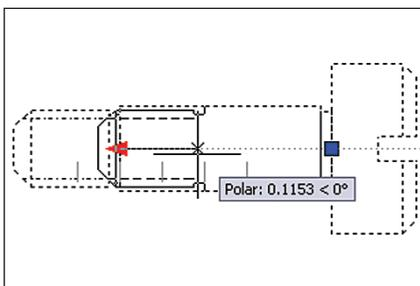

Figure 11. Edit the components of each dynamic block.
- You can edit individual components of a block. You can even assign specific increments for stretching or rotating with minimum and maximum values (Figure 11).